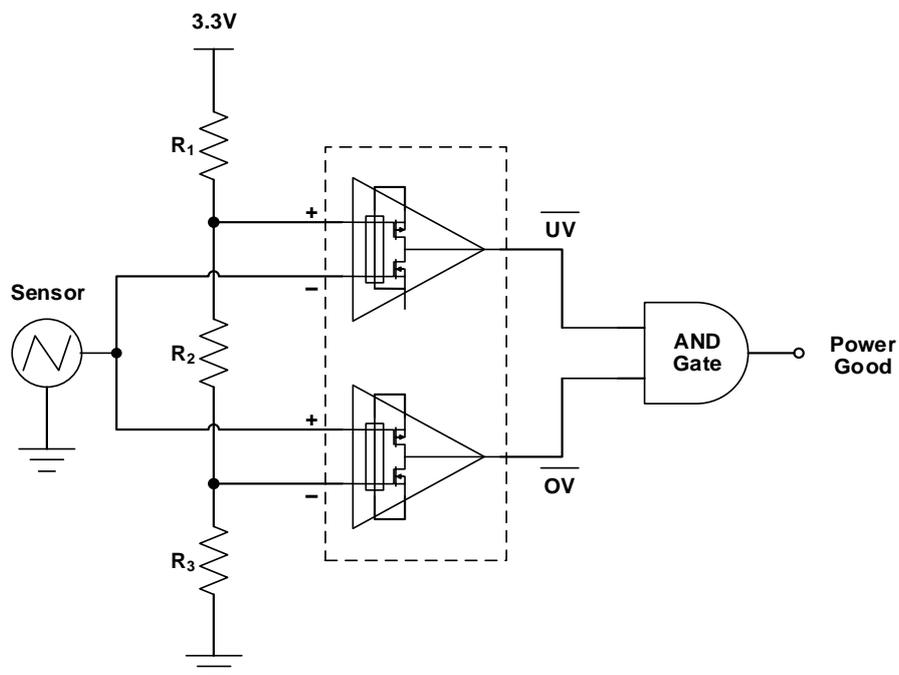

Figure 22. Window Comparator
Window comparators are commonly used to detect undervoltage (UV) and overvoltage (OV) conditions. Figure 22 shows a simple window comparator circuit.
Configure the circuit as shown in Figure 22. Connect  $V_{S+}$  to a 3.3V power supply and  $V_{S-}$  to ground. Make  $R_1$ ,  $R_2$  and  $R_3$  each 10M $\Omega$  resistors. These three resistors are used to create the positive and negative thresholds for the window comparator ( $V_{TH+}$  and  $V_{TH-}$ ). With each resistor being equal,  $V_{TH+}$  is 2.2V and  $V_{TH-}$  is 1.1V. Large resistor values such as 10M $\Omega$  are used to minimize power consumption. The sensor output voltage is applied to the inverting and non-inverting inputs of the 2-channel GD30CP5020's. The respective comparator outputs will be low when the sensor is less than 1.1V or greater than 2.2V.  $V_{OUT}$  will be high when the sensor is in the range of 1.1V to 2.2V. See the application curve in Figure 23.